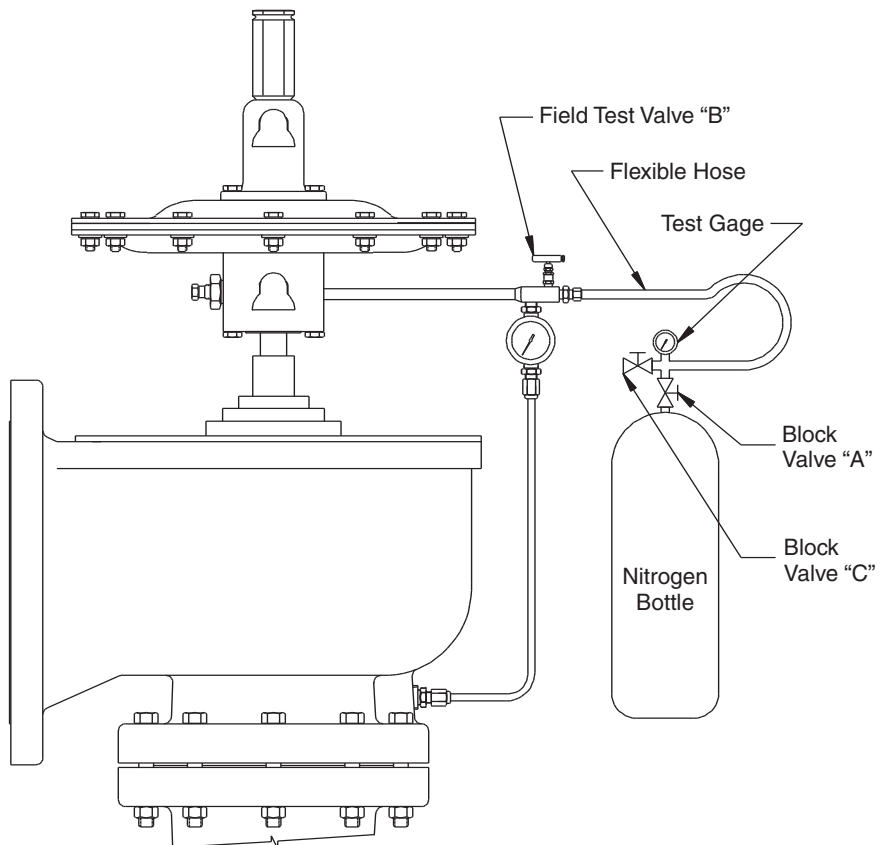

Figure 9
The pilot set pressure can be checked in the field by applying an external test pressure to the pilot through the Field Test Hand Valve as shown in Figure 9.
1. Connect test gas bottle as shown in Figure 9.